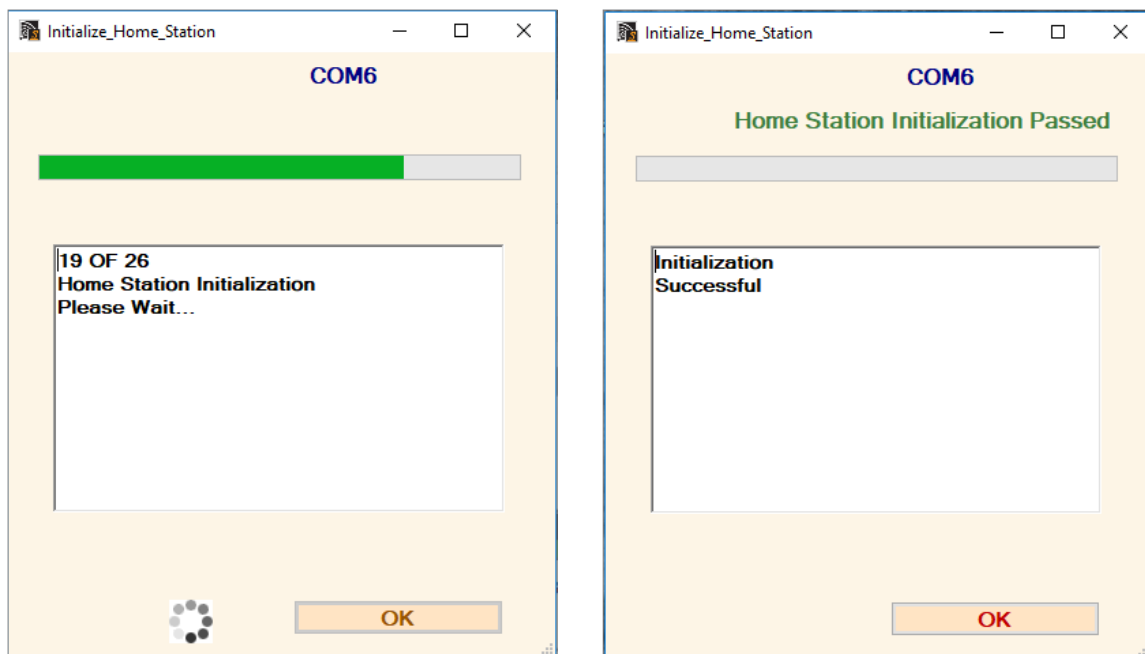

Figure 5-2 STS System Initialization
- 10) Click OK in the Initialize Home Station Window, and the STS System will start collecting data at the specified time. Figure 5-2 shows a successful initialization.